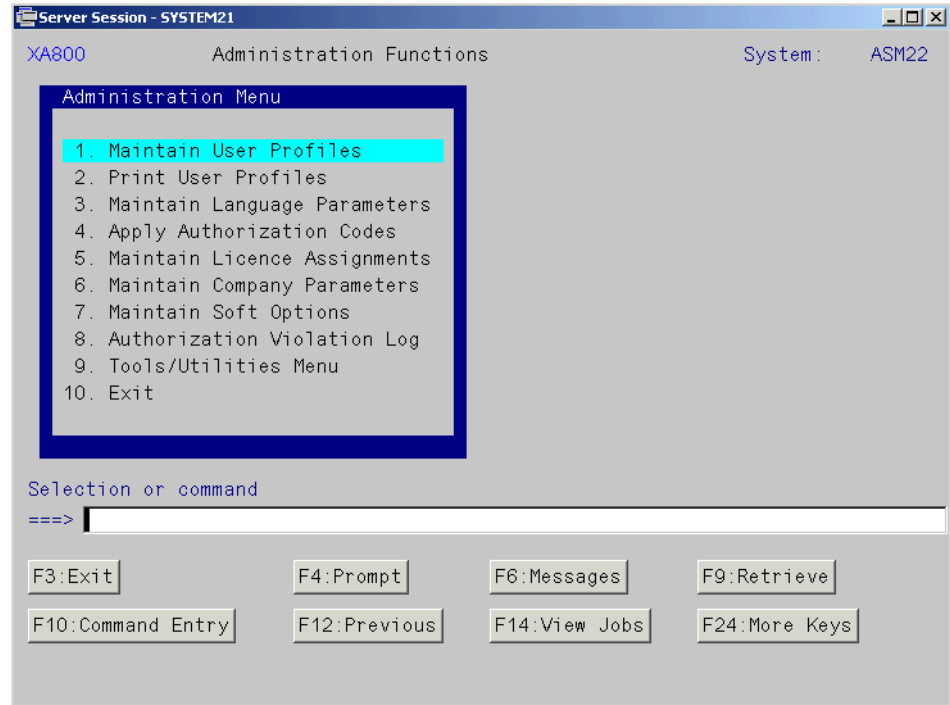

Figure 55. STRIPGCF Common Functions panel
3. Press Enter. The Administrative Functions menu is presented as shown in Figure 55.